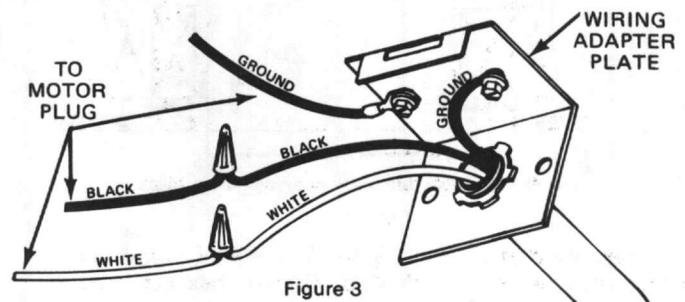
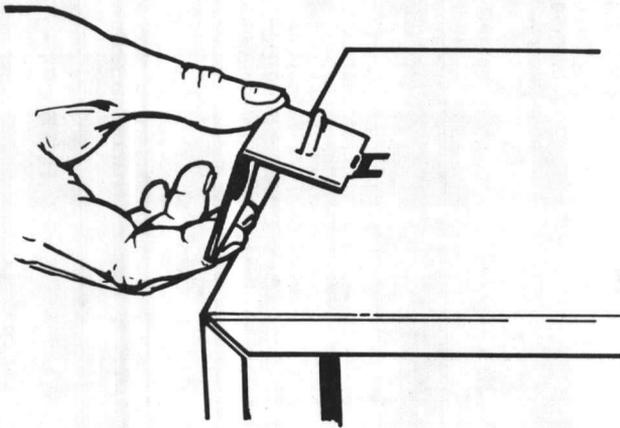

Figure 3
Figure 9
electrical cable with appropriate electrical connector. Fasten incoming ground wire (bare or green wire) to adapter plate with green ground screw provided. Connect white wire to white, black wire to black. (Fig. 3) Replace wiring adapter plate so that tab on housing slides through slot on plate. (See Fig. 9)
4. **Wire Unit** - Remove wiring adapter plate, which is located on top of housing (See Fig. 9), and attach
Wiring may enter unit from top or side. To change wiring adapter plate position, remove sheet metal screws, flip plate over, and replace screws. Make sure that tab on housing slides through slot on plate. (Fig. 9)